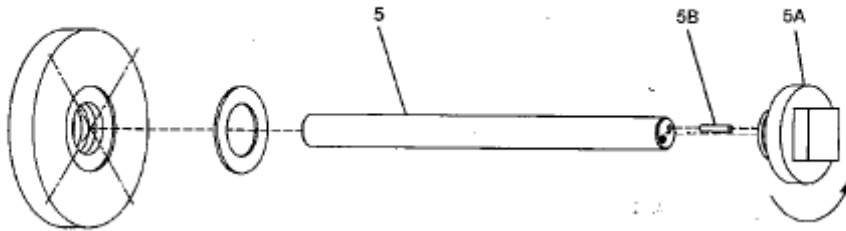

FIGURE 10
5.1.2.1.1 Pipe Plug Seal Cover (Fig 10 & 11)